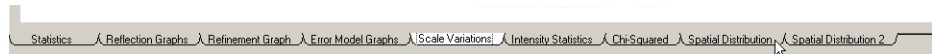

Figure 7.27 - Tabs for selecting diagnostic plots
2. Click on the “folder” tab at the bottom of the screen to select the individual plots as shown in Figure 7.27. **Why? To do what?**